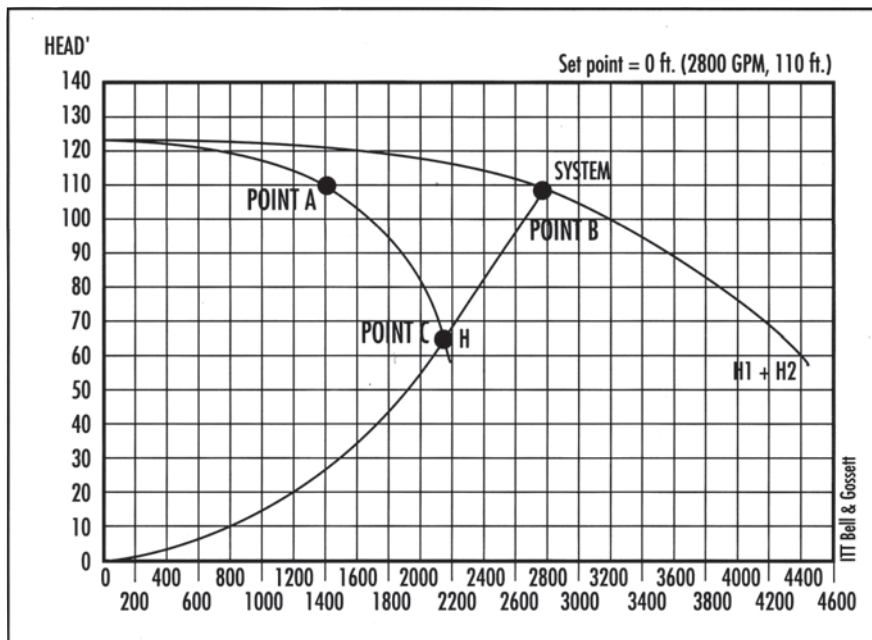

Figure 2: The pump curves for one-pump operation (H) and for both pumps operating together (H1 + H2)
flow of 2800 GPM at 110 feet. Each pump is sized for half the flow (not half the head) - 1400 GPM at 110 feet. Figure 2 shows the pump curves for one pump operation (H) and for both pumps operating
Point A in Figure 2 is the operating point of each pump. Point B shows the flow for both pumps operating together. Since the amount of flow produced by a centrifugal pump is dependent on the amount of resistance it must overcome, a system can only operate where the system curve crosses the pump curve. For the design condition, this is the point where the system curve crosses the combined pump curve.